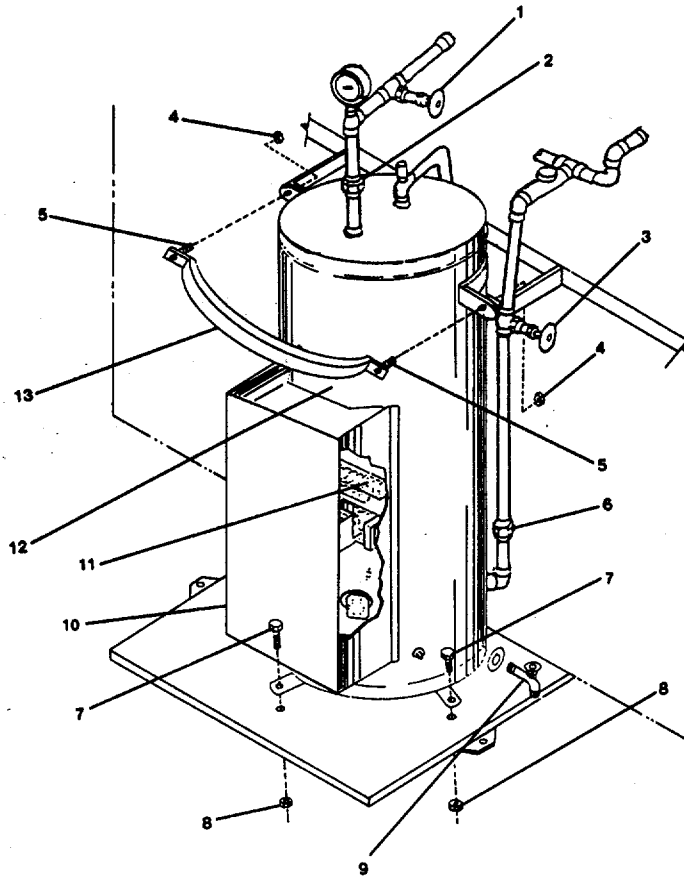

FIGURE 3-208. Hot Water Heater Removal.
- a. Close hot water supply valve (1, Figure 3-208).
- b. Close cold water isolation valve (3).
- c. Drain hot water heater (12) through drain faucet (9).
- d. Open hinged access door (10).
- e. Install tags and disconnect electrical leads at terminal block (11).
- f. Close hinged access door (10).
- g. Disconnect cold water piping (6) and hot water piping (2).
- h. Remove bolts (7) and nuts (8) from base of hot water heater.
Repair to the hot water heater at this level of maintenance is by replacement of hot water heater (12, Figure 3-208), corrosion preventive anode (4), thermostatic switch (2), fuse block (5), transformer (6), thermostatic switch (8) and contactor (9).
- a. Place hot water heater (12, Figure 3-208) in position.
- b. Install strap (13) on hot water heater (12) and secure using bolts (5) and nuts (4). Do not tighten yet.
- c. Install bolts (7) and nuts (8) on base of hot water heater (12).
- e. Connect hot water piping (2) and cold water piping (6).
- f. Open hinged access door (10).
- g. Remove tags and connect electrical leads to terminal block (11).
- h. Open cold water isolation valve (3).
- i. Open hot water supply valve (1).